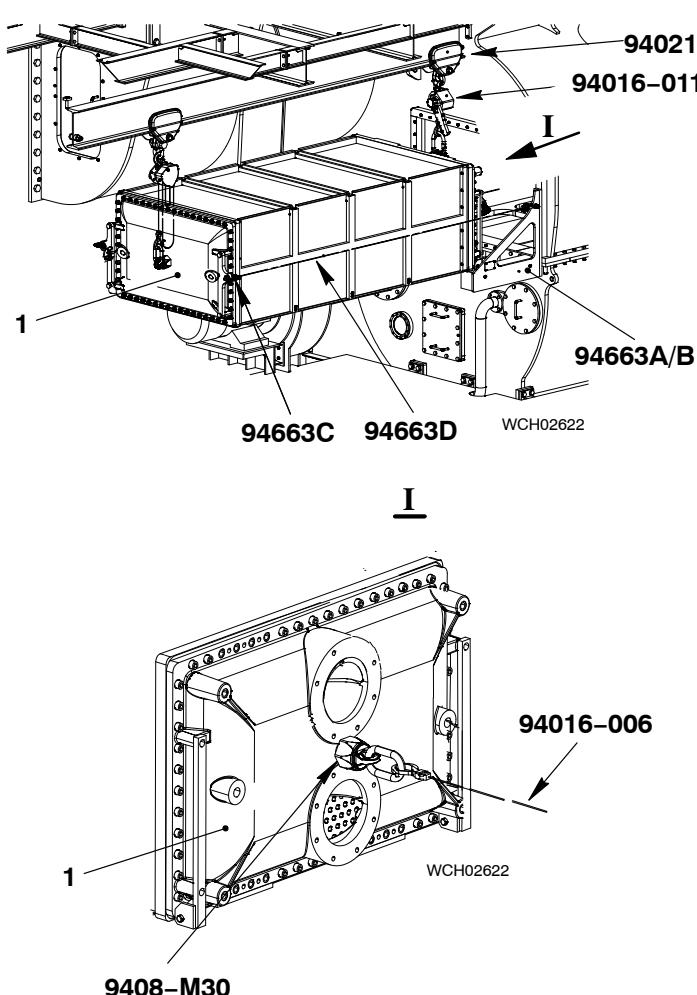

Fig. 9
- 8) Operate the manual ratchet (94016-006) to move the SAC (1) to the left and right supports (94663A/B, Fig. 9).
- 9) Make sure that the end of the SAC (1) is on the left and right supports.
- 10) Attach the safety lugs (94663C) and safety chains (94663D) to the SAC (1).